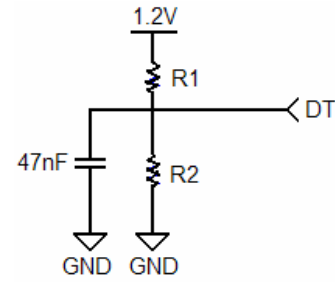
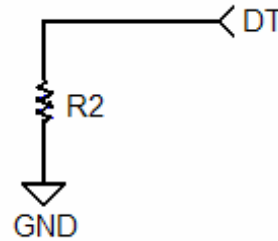

FIGURE 32A.
FIGURE 32B.
The QLx4600-S30 is capable of maintaining periods of line silence on any of its four channels by monitoring each channel for loss of signal (LOS) conditions and subsequently muting the outputs of a respective channel when such a condition is detected. A reference current applied to the detection threshold (DT) pin is used to set the LOS threshold of the internal signal detection circuitry. Current control on the DT pin is done via one or two external resistors. Nominally, both a pull-up and pull-down resistor are tied to the DT pin (Figure 32A), but if adequate control of the supply voltage is maintained to within  $\pm 3\%$  of 1.2V, then a simple pull-down resistor is adequate (as in Figure 32B). Resistors used should be at least 1/16W, with  $\pm 1\%$  precision.
The internal bias point of the DT pin, nominally 1.05V, is used in conjunction with the voltage divider (R1 and R2) shown in Figure 32A to set the reference current on the DT pin.
For channels exhibiting more than 25dB of total loss (this includes cable or FR-4 loss) the DT pin should be configured for a reference sink current (coming out of the DT pin) of approximately 2 $\mu$ A. A typical configuration for a 2 $\mu$ A sink current is given in Figure 32C. If the configuration in Figure 32B is utilized, a 525k $\Omega$  resistor would be used.